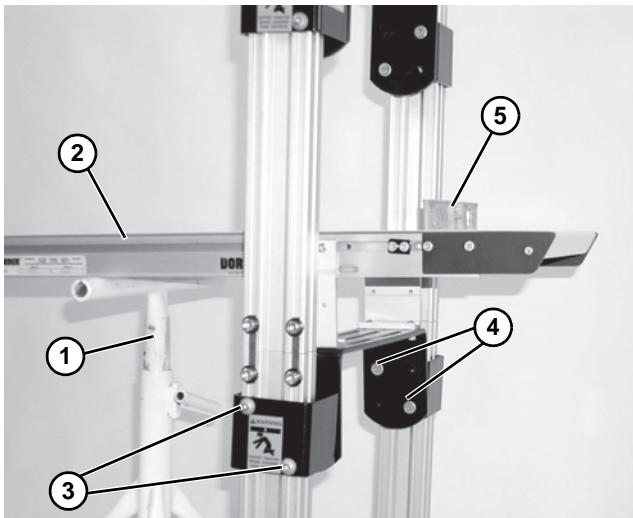

Figure 12
1. Install a support (Figure 12, item 1) below conveyor (Figure 12, item 2) that will be adjusted.
Loosening conveyor height adjustment screws (Figure 12, item 3) or angle adjustment screws (Figure 12, item 4) may cause conveyor to drop down, causing severe injury.
2. Loosen two flange socket head screws (Figure 12, item 4) on each side of conveyor (Figure 12, item 2).
3. Loosen two button head screws (Figure 12, item 3) on each side of conveyor (Figure 12, item 2).
4. Adjust conveyor to desired height. Using a level (Figure 12, item 5), ensure conveyor is level from side to side.
Failure to secure screws (Figure 12, item 4 and 3) may cause conveyor sections to drop down, causing severe injury.
TIGHTEN SCREWS (Figure 12, item 4 and 3) AFTER ADJUSTMENT.
5. Tighten two flange socket head screws (Figure 12, item 4) on each side of conveyor (Figure 12, item 2) to 24 ft-lb (33 N-m).
6. Tighten two button head screws (Figure 12, item 3) on each side of conveyor (Figure 12, item 2) to 17 ft-lb (22.5 N-m).
2. Adjust conveyor to desired angle. Using a level (Figure 12, item 5), ensure conveyor is level from side to side.